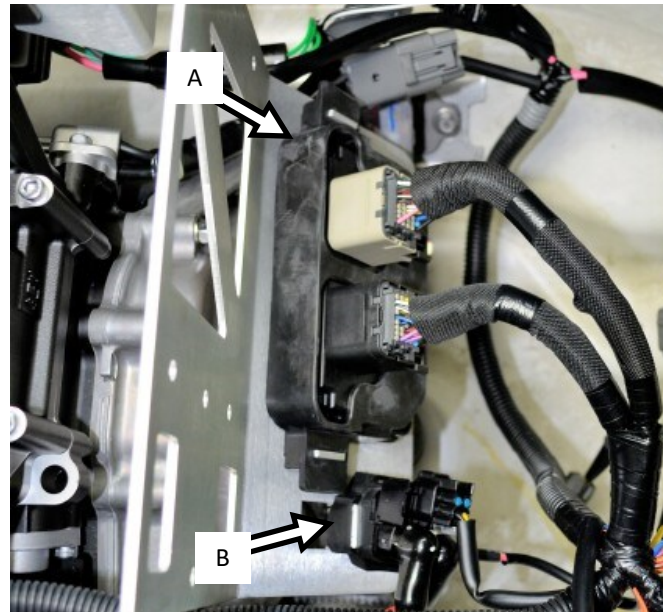

Figure 12 (Some additional components removed for clarity.)
Install ECU and ECU suspension onto tabs (3) on lower, left side of supplied electrical mount bracket (A). (Figure 12)
Install starter relay and suspension onto tabs (2) next to ECU (B - Figure 12). **Note: It may be necessary to bend the tabs of the cables to ease installation onto the tabs.** Use supplied zip ties to fasten wires to electrical bracket. On some units it may be necessary to cut the zip ties on the main harness to accommodate cable connections.